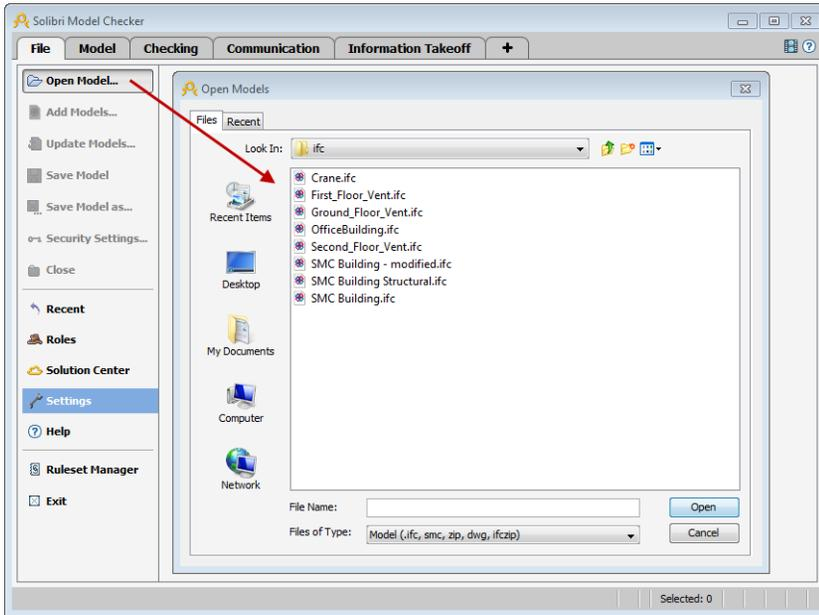

Figure 8 Open Models Dialog
- 1) When you click **Open Model** on the left sidebar menu, you will see the **Open Models** window that shows sample files (see Figure 8).